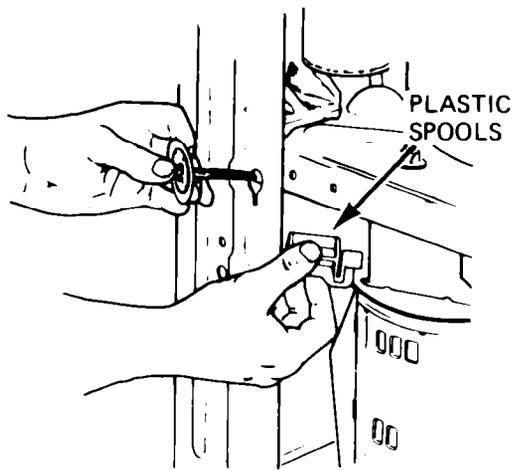
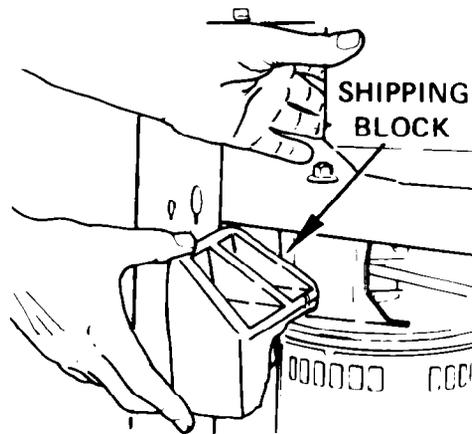

Figure 5
Figure 6
Remove the rear service panel (1) . . . first remove two screws at the bottom of the panel, then swing the panel up and toward you. Now remove the shipping blocks between the base plate and cabinet, inside the left and right rear corners of the washer, by removing the screws, washers and plastic spools (2). These assemblies are for protection of the washer during shipping. (See Figure 5.) Push base plate forward and remove the foam plastic block in the left corner (3B). (See Figure 6.) Save all shipping accessories in the event the washer may be moved to another location.